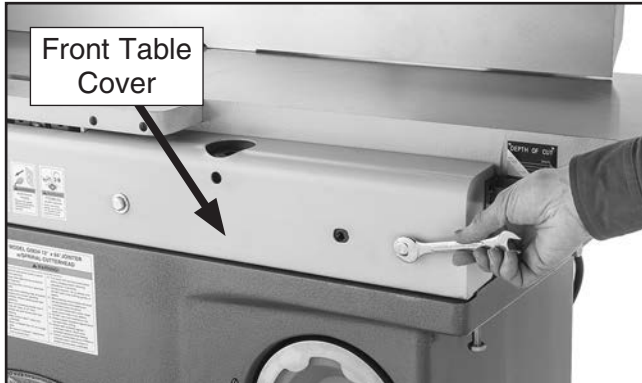

Figure 54. Removing front table cover.
4. Remove front and rear table covers to expose eccentric bushings, as shown in **Figures 54–55**.